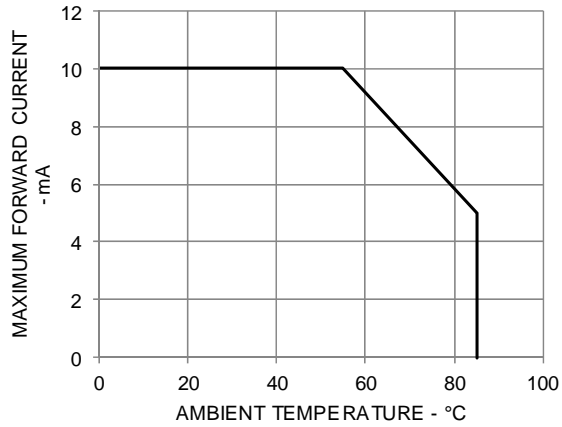

Figure 7. Derating curve
- Derate linearly as shown in Figure 7.